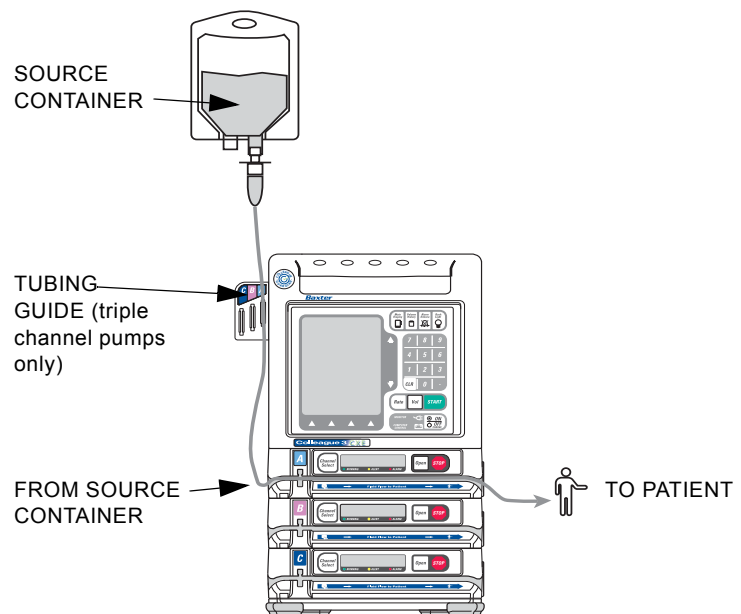

Figure 4-20 Orientation of Source Container, Pump, and Patient
5. Confirm that the tubing coming from the source container enters the pump module on the **left** side, and the tubing exiting the pump on the right side goes to the patient as shown in Figure 4-20.